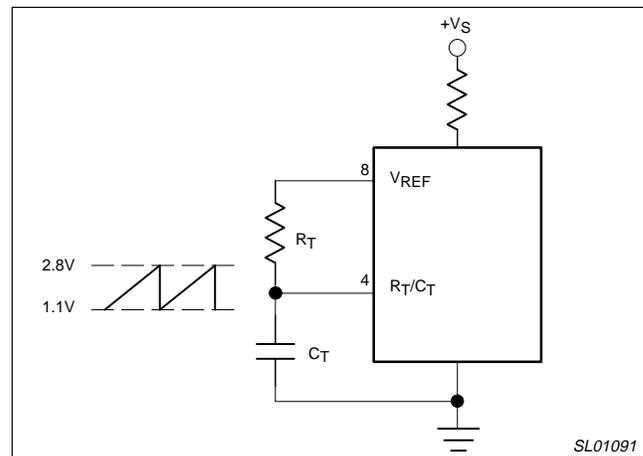
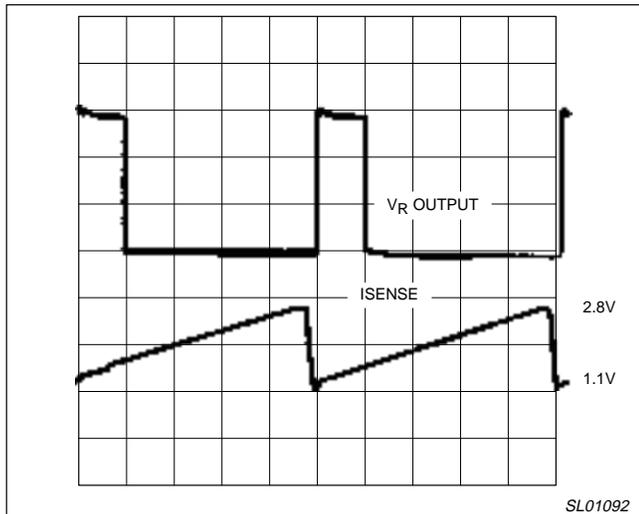

Figure 4. Timing Circuit
Figure 5. Oscillator vs Output
**Pin 4: Timing network,  $R_T C_T$ .** An R/C network is connected between  $V_{REF}$  (+5.00V) and ground to provide a fixed time base for the PWM (Figure 4). Ramp peak and valley voltage will have a typical value of 1.1V to 2.8V, respectively, at room temperature. The output waveform at Pin 4 is displayed with Pin 6 output in Figure 5.